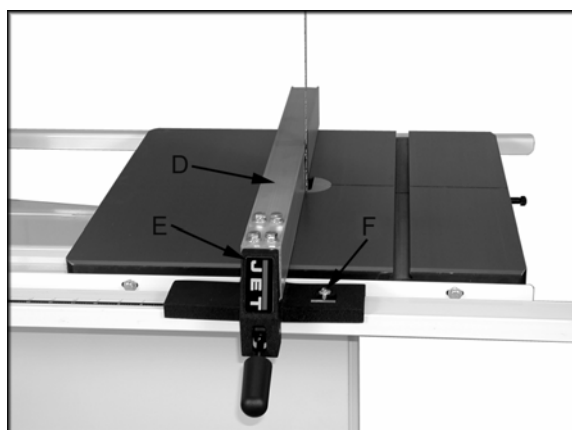

Figure 9
1. Attach the fence (D, Fig. 9) to the fence body (E, Fig. 9) with four 5/16" x 3/4" hex cap bolts, four 5/16" lock washers, and four 5/16" flat washers.
8. Check to see that the pointer (F, Fig. 9) is aligned with the zero marking on the guide rail. If adjustment is necessary loosen the screw that holds the pointer in place and line up to the zero mark. Tighten the screw.